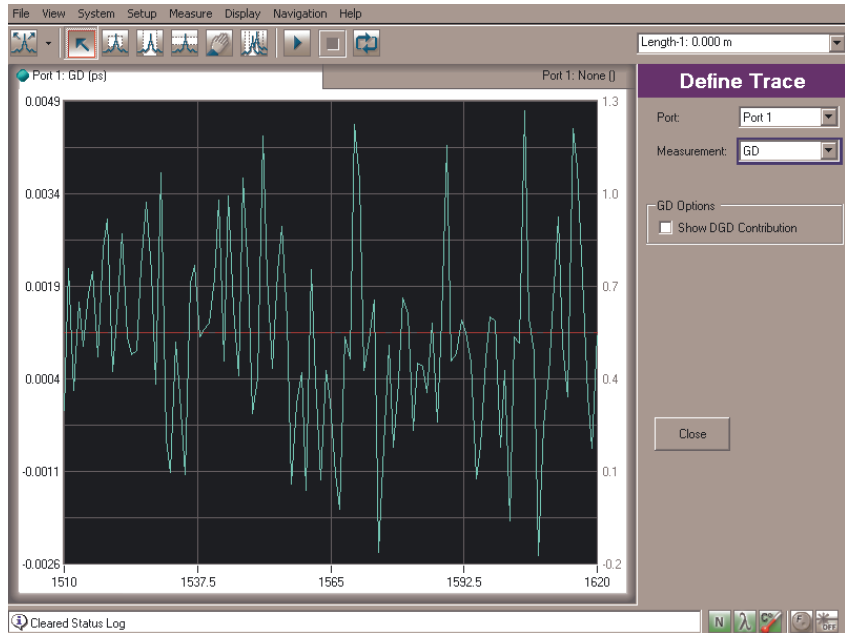

Figure 5 Sample GD trace
- c Check the GD curve. Since the normalization and measurement are made with the same connection, the relative GD should ideally be 0 ps and a measurement curve should look similar to Fig. 5. The variation from a linear fit to the data is a measure of the noise and